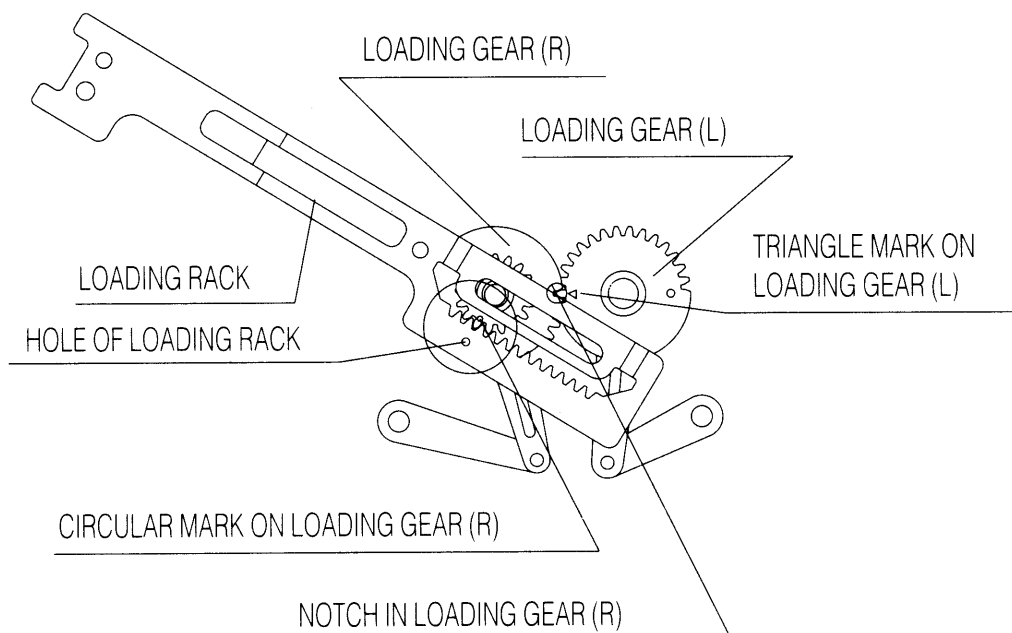

Fig.3-9 ASSEMBLY OF the R.L LOADING ASS'Y & LOADING RACK ASS'Y
- When reassembling, refer to Fig. 3-9